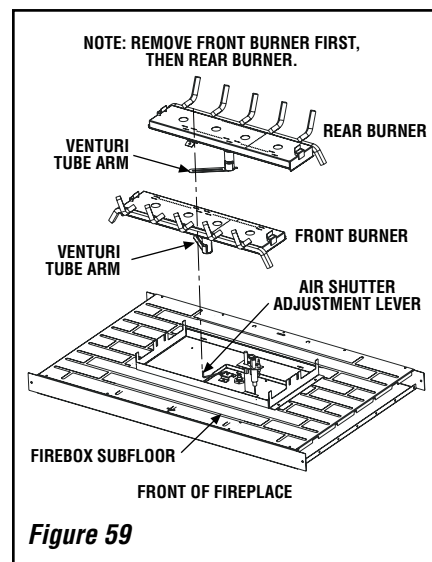

Figure 59
Step 4. Refer to **Figure 59**. Remove the front burner and then the rear burner.
Step 7. (Refer to **Figure 59** on **Page 37** and **Figure 62**)
B. Install rear burner first, followed by front burner, as shown in **Figure 63**. Ensure that the arm of the venturi of each burner is hooked onto the air shutter adjustment lever (refer to **Figure 59** on **Page 37**). The primary air opening can be adjusted by rotating the adjustment lever from beneath the firebox floor. Refer to **Figure 56** on **Page 32** for the recommended minimum primary air opening setting.